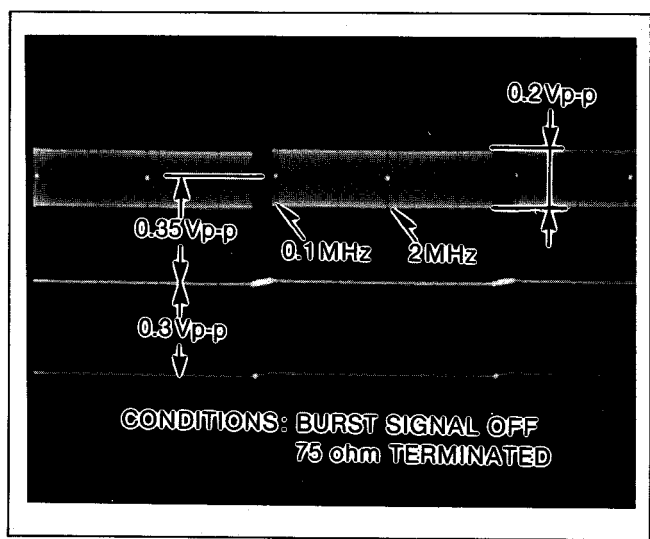

Fig. E7
(1) Set the Video Sweep Signal as shown in Fig.E7.